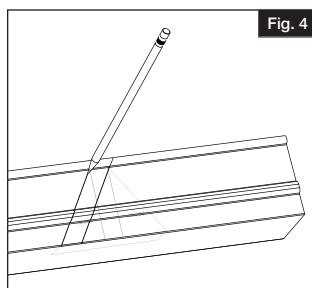
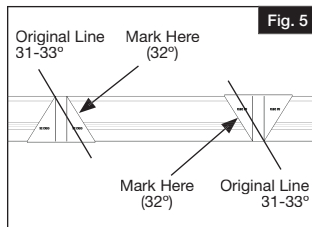

Fig. 4
Fig. 5
- From the original line created by the post, mark another line $\frac{1}{16}$ " on the inside of the bottom rail (closer to the baluster routes) (Fig. 4). This is accomplished by using the angle template (Fig. 5). This additional removal of material will allow for bracket clearance when the rail is installed. For this 31°-33° angle, the new line will be parallel to the previously drawn line.